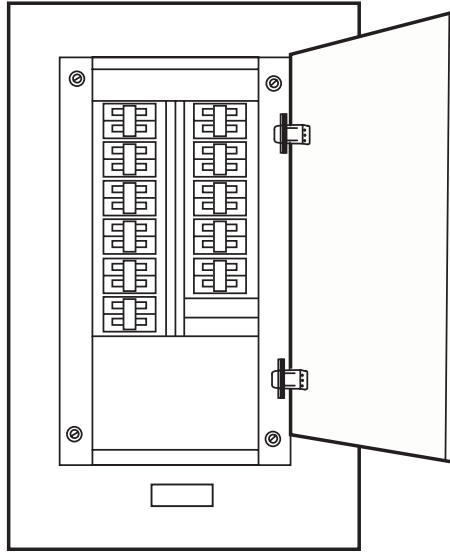

Figure 4. 120V Exterior Emergency Lighting Panel No. 2
- d. 120V exterior emergency lighting panel No. 2 (figure 4), located aft in the 01 level passageway.